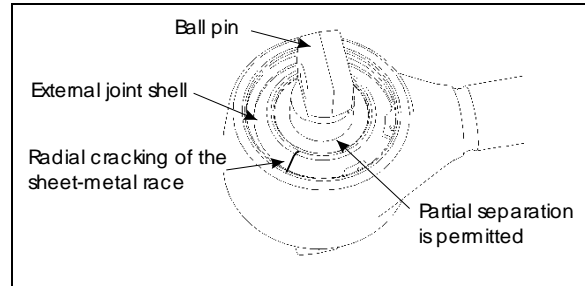

FIGURE 45: BALL JOINTS 16173
7. Place the inner washers (with washer convex side facing the shock absorber rubber bushing) on each shock absorber pin (Fig. 45).